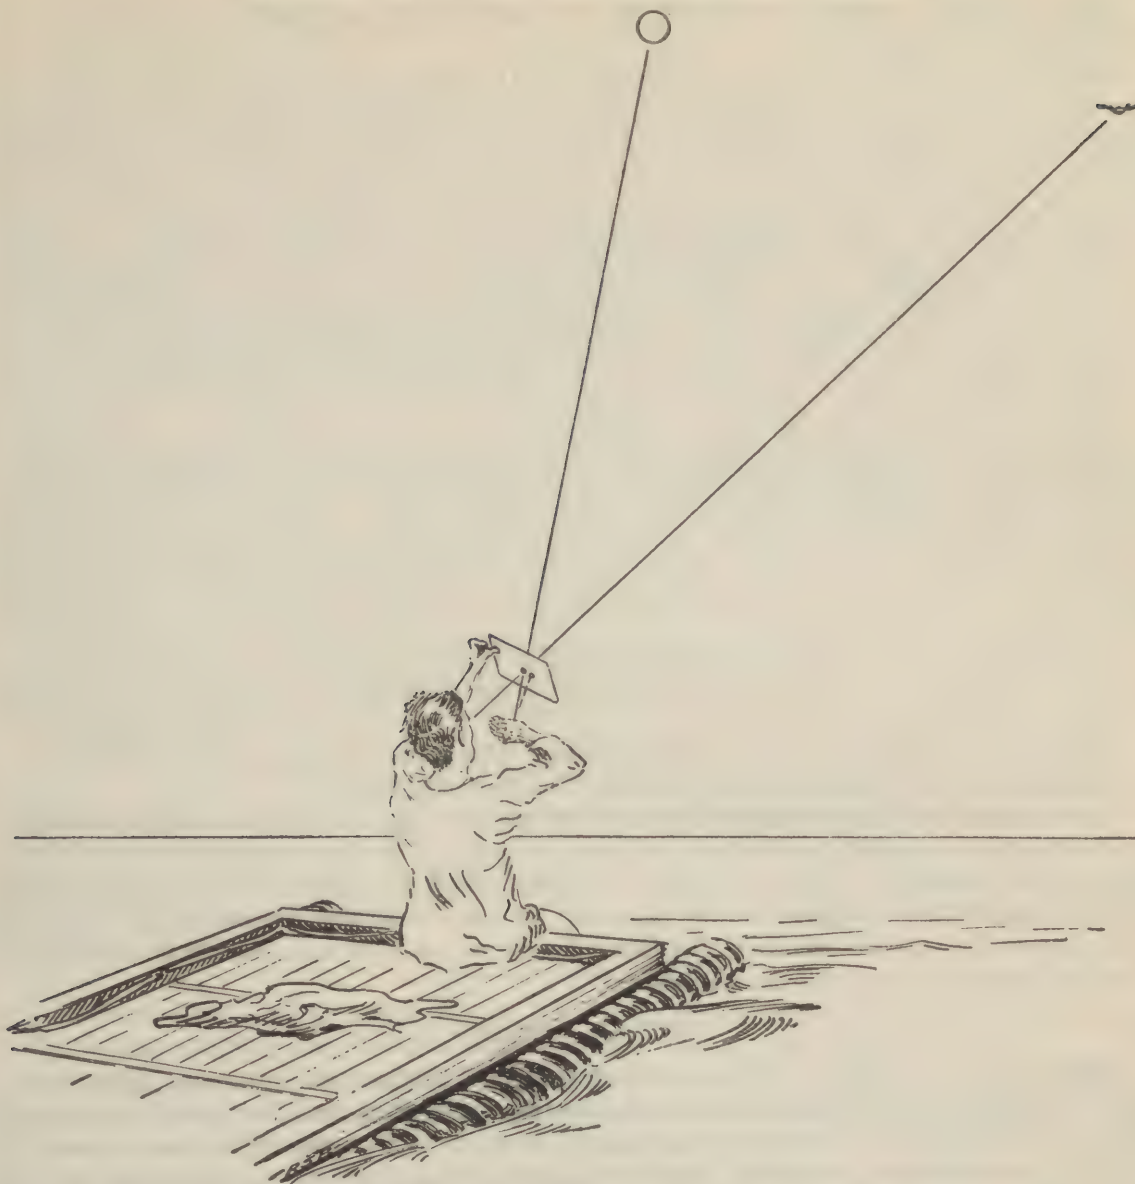

FIGURE 9.—Sighting a signaling mirror.
**Sighting instructions.**—In order to most effectively utilize the signaling mirror, all seamen should familiarize themselves thoroughly with the sighting instructions and technique shown in figure 9. Unless this method of aiming the mirror is used, the chances of the flash being seen by the observer in an airplane or surface vessel are extremely remote.